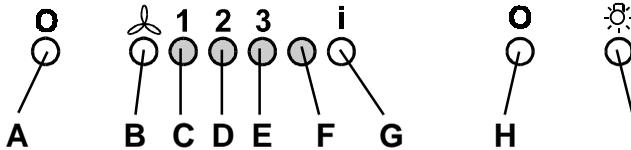

**Fig. 2**
- Fix the deflector using 4 screws  $\text{Ø } 3.5 \times 6.5 \text{ mm}$ . **Fig. 2**.